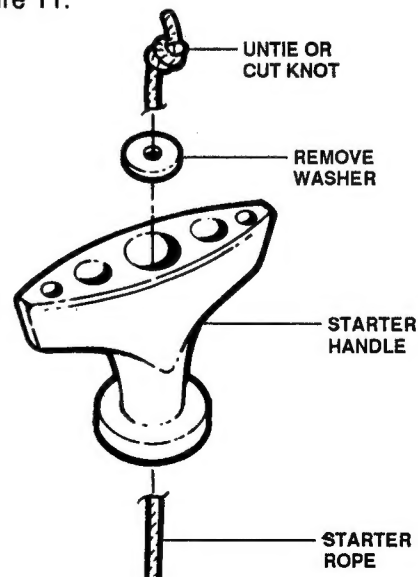

FIGURE 11
6. Remove the handle by untying or cutting the knot and removing the washer. See Figure 11.